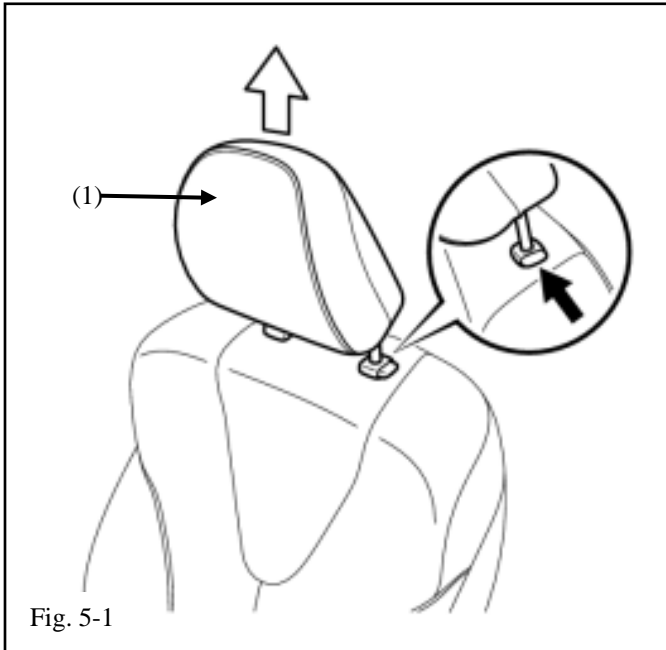
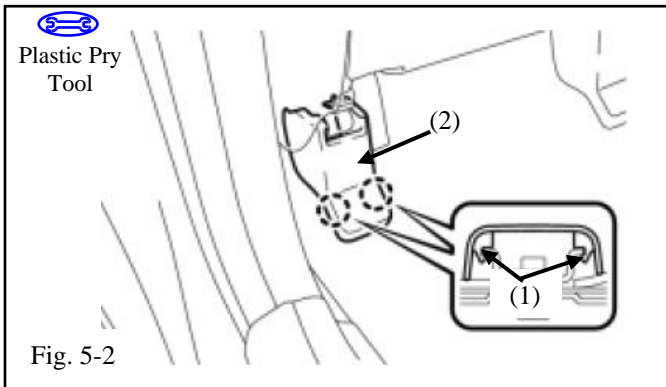

Fig. 5-1
Fig. 5-2
- (3) Detach two clips (2) to remove the cowl (3) using a plastic pry tool. (Fig. 5-2)
(a) Press the headrest support button and pull the headrests (1) up and off of the driver and passenger front seats. (Fig. 5-1)
(1) Operate the power seat switch (slide switch) to move the seat to the forward position.
(2) Using a plastic pry tool, disengage the two claws (1) and remove the Rear Outer Track Cover (2). (Fig. 5-2)